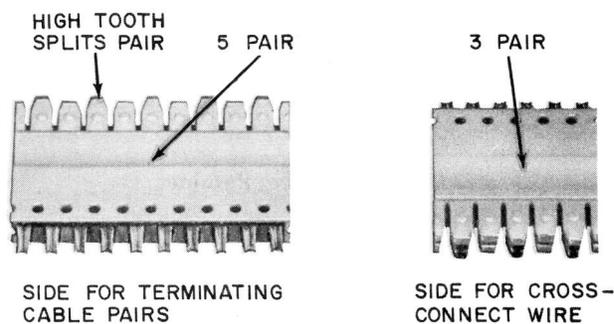

Fig. 3—88-Type Connecting Block
- 2.04** The 88-type connecting block (Fig. 3) consists of a flame retardant, plastic-molded housing equipped with double-ended, quick-clip metal connectors. When mounted on the wiring block, the bottom end makes connection with the cable conductors in the index strip, and the top end provides connections for cross-connect wires. They are available in 3- and 5-pair blocks. The clips for terminating the cables are designed to terminate